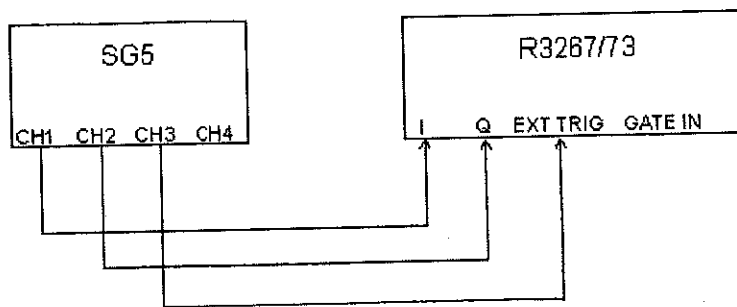

Figure 3-32 Setup of MS Measurement
1. Connect equipment as shown Figure 3-32.